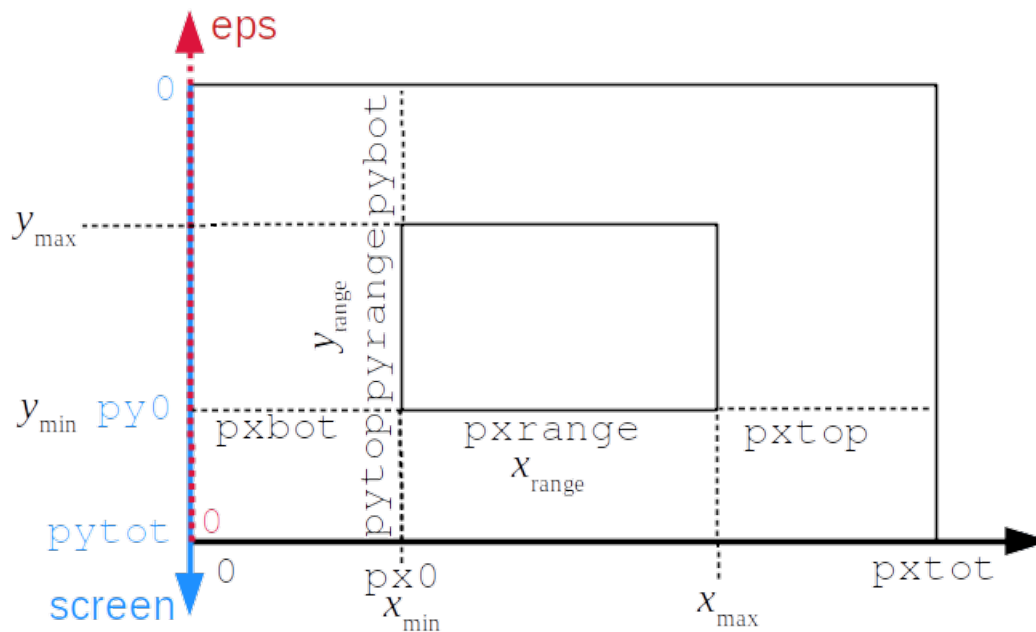

Figure 1: `../com/vgraph` coordinates
**SetRange\***, **SetMargin\*** etc set plot ranges and scaling as displayed in Fig.1. The vertical screen coordinate counts downwards whereas the physical coordinates as well as the Postscript coordinates count upwards.